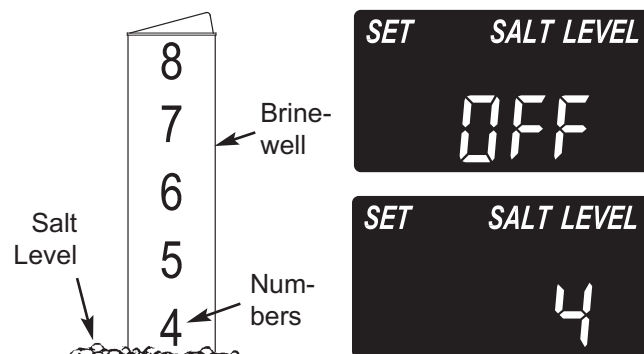

FIG. 24
2. The salt level scale, on the brine well inside the tank, has numbers from 0 to 8 (see Fig. 24). Observe the highest number the leveled salt is at, or closest to.